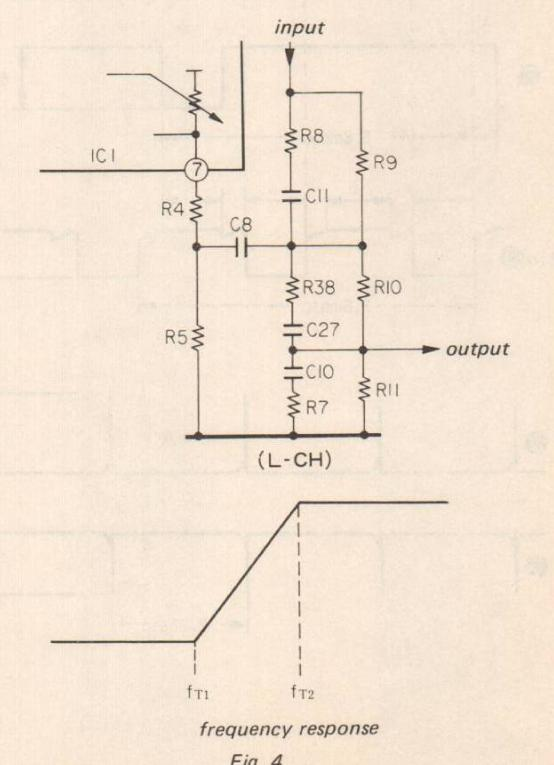

Fig. 4
1) High-Level Stage (Refer to Fig. 4)